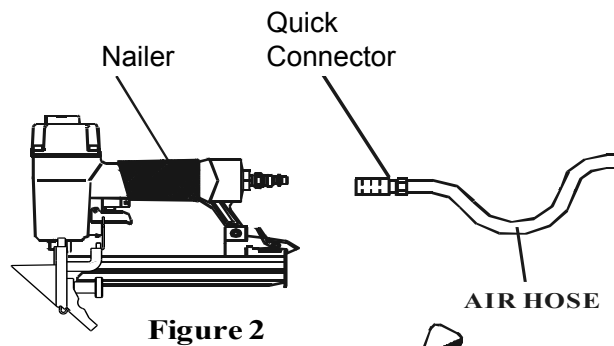

Figure 2
4. Connect the tool to the air supply (Figure 2).